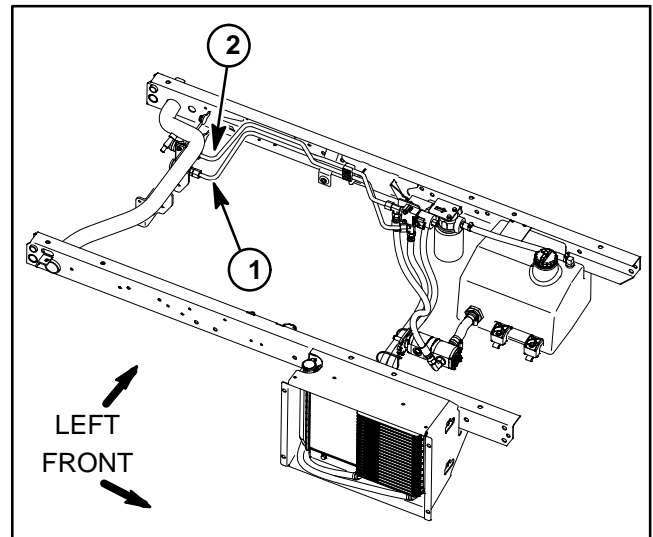

Figure 27
1. Make sure hydraulic oil is at normal operating temperature by operating the vehicle for approximately ten (10) minutes.
**IMPORTANT: Make sure that the oil flow indicator arrow on the flow meter is showing that the oil will flow from the pressure coupler, through the tester and into the return (tank) coupler (Fig. 27).**